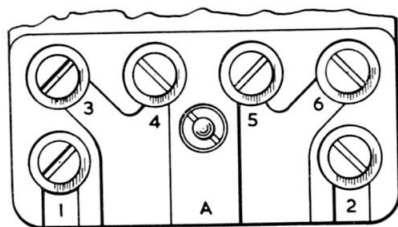
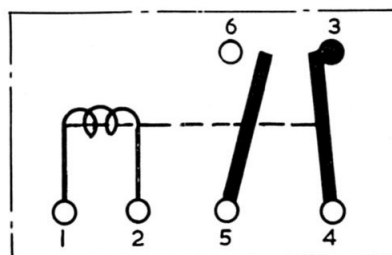

Fig. 3. Terminal arrangement
Fig. 4. Circuit diagram
3. The mechanism is mounted on a base plate of moulded insulating material, with separate covers for the terminals and the electro-magnet assembly. The terminal arrangement is shown in fig. 3, and a circuit diagram in fig. 4.